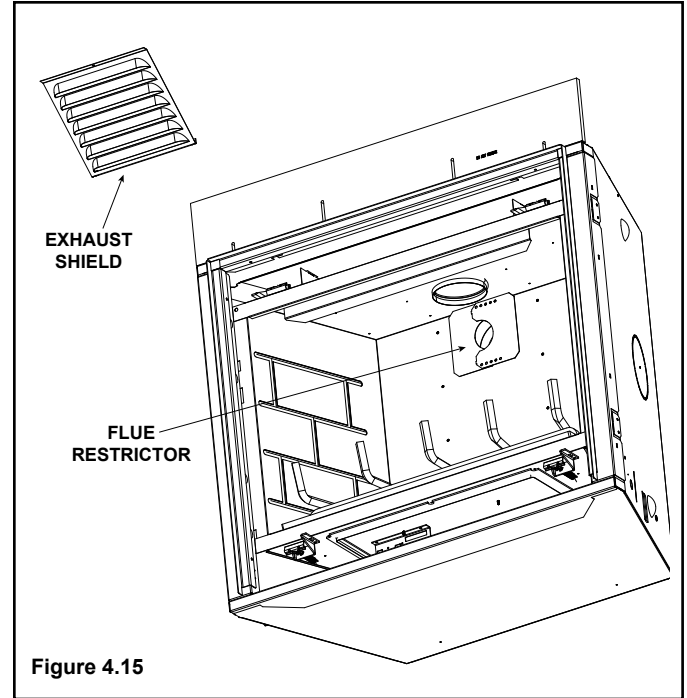

Figure 4.15
1. Remove exhaust shield using a 1/4 inch nut driver by removing the four screws securing it in place. See Figure 4.15
4. Center the two flue restrictor pieces on the vent at the setting selected in step 3 and secure in place by using two self-tapping screws. See Figure 4.15.